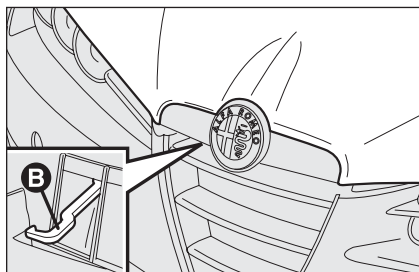

fig. 82
- keep the lever **B-fig. 82** pulled and raise the bonnet